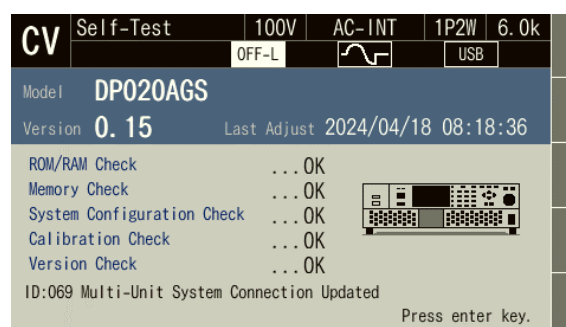

Figure 3-4 Self-Test Screen when Started in a Different System than Before
2. The self check is performed and the result is displayed. If there was a problem with the result or if the multi-unit system connection has changed, the startup process halts at the Self-Test screen shown in *Figure 3-4*. Check the self check result and press the ENTER key to resume the startup process.